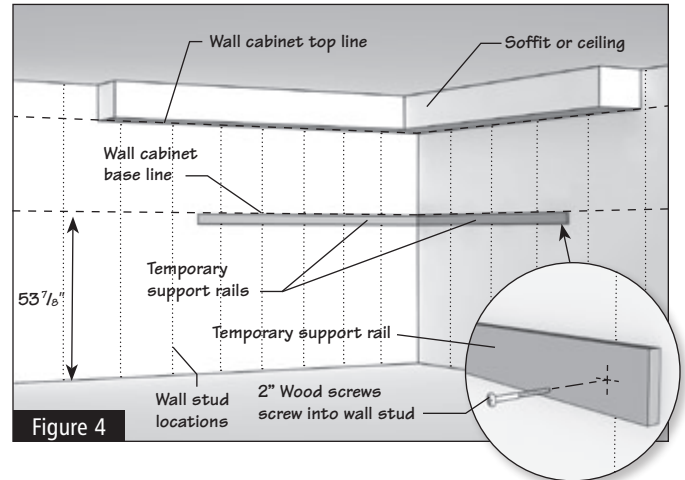

Figure 4
1.5 Using the 1 x 2 or 1 x 3 furring strips, screw a support rail into the studs with 2" wood screws below the baseline you have drawn for the wall cabinets. This will help support the weight of the wall cabinets, and give you something to rest the cabinets on when installing them. Make sure your support rail (sometimes called a cleat or ledger board) is level. (Figure 4)